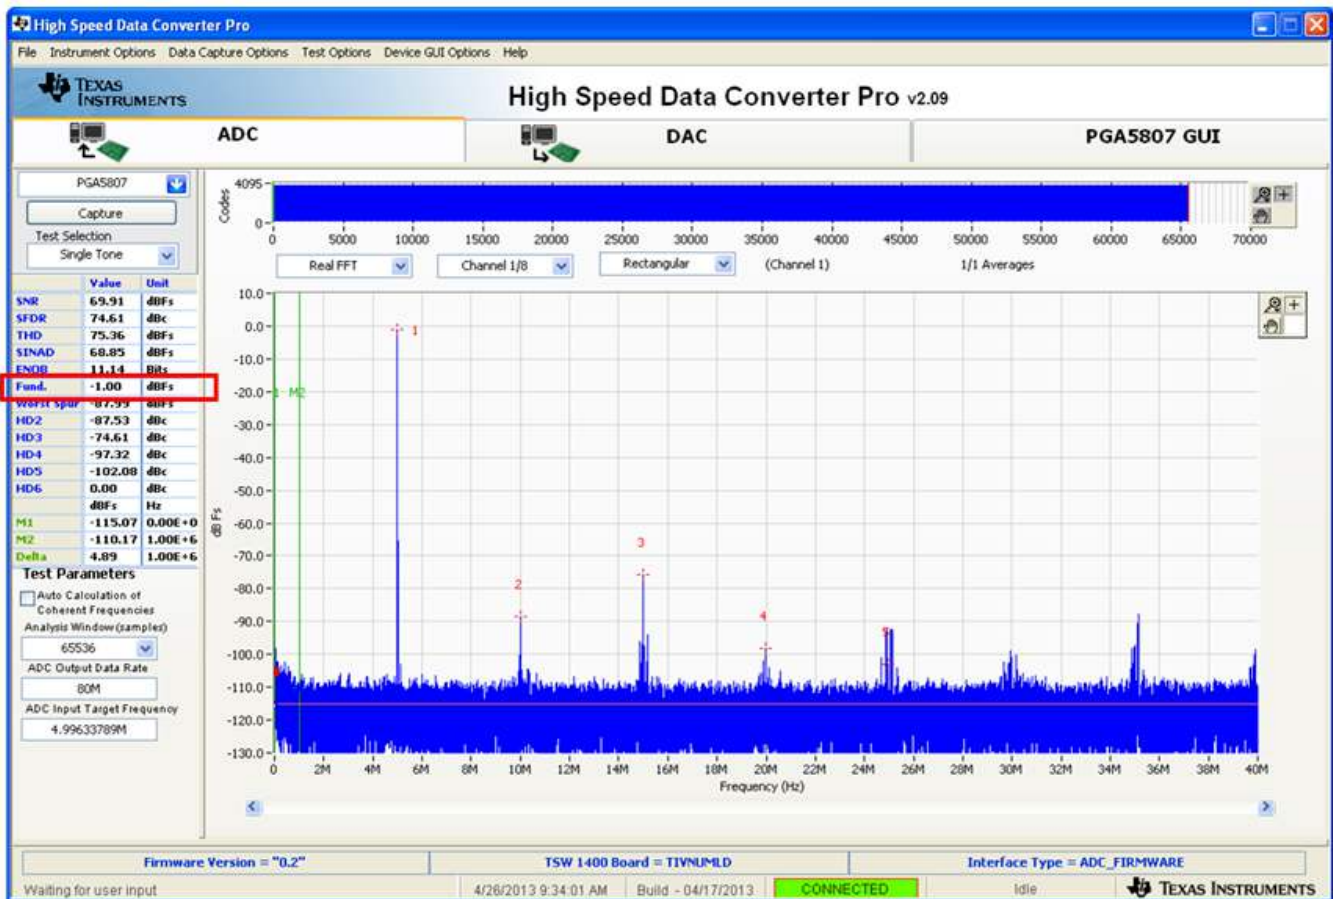

Figure 42. ADS5296 Only Sinusoidal Capture 1
4. The plot will update as shown in Figure 42. Take note of the *Fund.* value in the left panel highlighted in RED in Figure 42. This value is dependent on the signal level set on the signal generator feeding the input signal to J36. It also depends on cable loss and filter insertion loss which can vary among parts. If needed, reset the signal amplitude (level) until the *Fund.* value is approximately  $-1.0$  dBFS, as this is the condition for which the datasheet specifications are set. The input level was iteratively adjusted to achieve  $-1.0$  dBFS as seen in Figure 42.